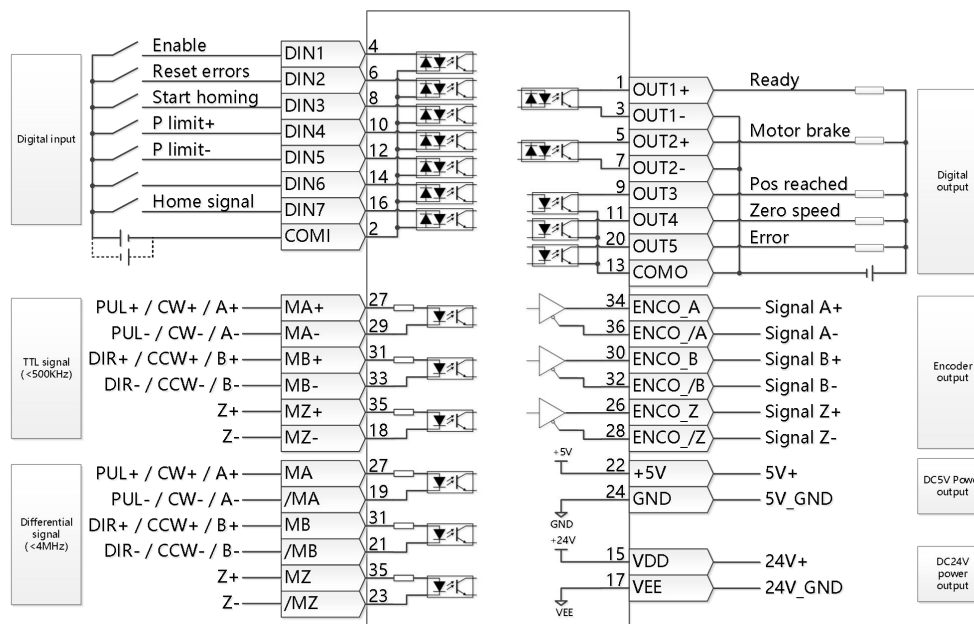

Figure 3-10 FDxx5P-LA/CA/EA drive IO port definition
- Figure 3-10 shows the X1 wiring of the FDxx5P-LA/CA /EA driver's default IO function. More IO functions can be defined by the digital panel or the upper computer debugging software. For more details on IO features, see Chapter 5, Section 5.5.